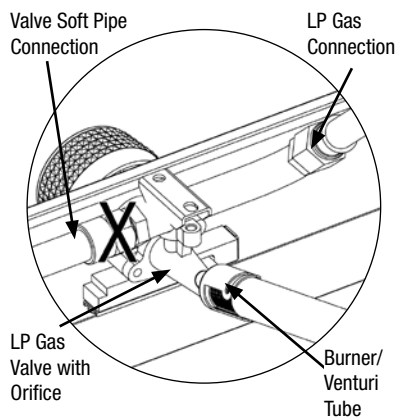

Figure 3
2. Make sure control knobs are in the "OFF" position (Figure 3).
3. All control knobs must be in the "OFF" position (Figure 3).
3. Control knob must be in the "OFF" position (Figure 3).